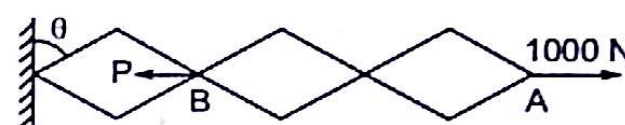

Fig. 9.40
9.10 A number of rods are hinged together to form three identical rhombus as shown in the figure 9.40. If a horizontal force of 1000 N is applied at A, what is the force P required at B for equilibrium?